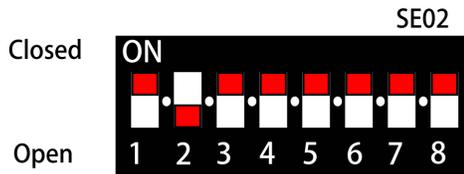

FIGURE 5. Dip Switch SE02
**DIP Switch SE02**, shown in Figure 5, is used to configure the MCII-e. Configurations include setting the baud rate and determining the Master and Slave frame in a multi-frame system.